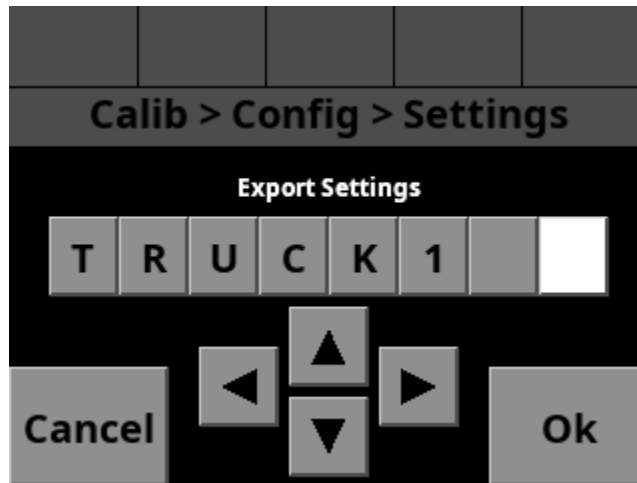

Figure 17: Export Settings File Name Screen
- STEP 2: Navigate to the Calibration → Config → Settings → Export Settings screen. Figure 17 will appear, as shown below.